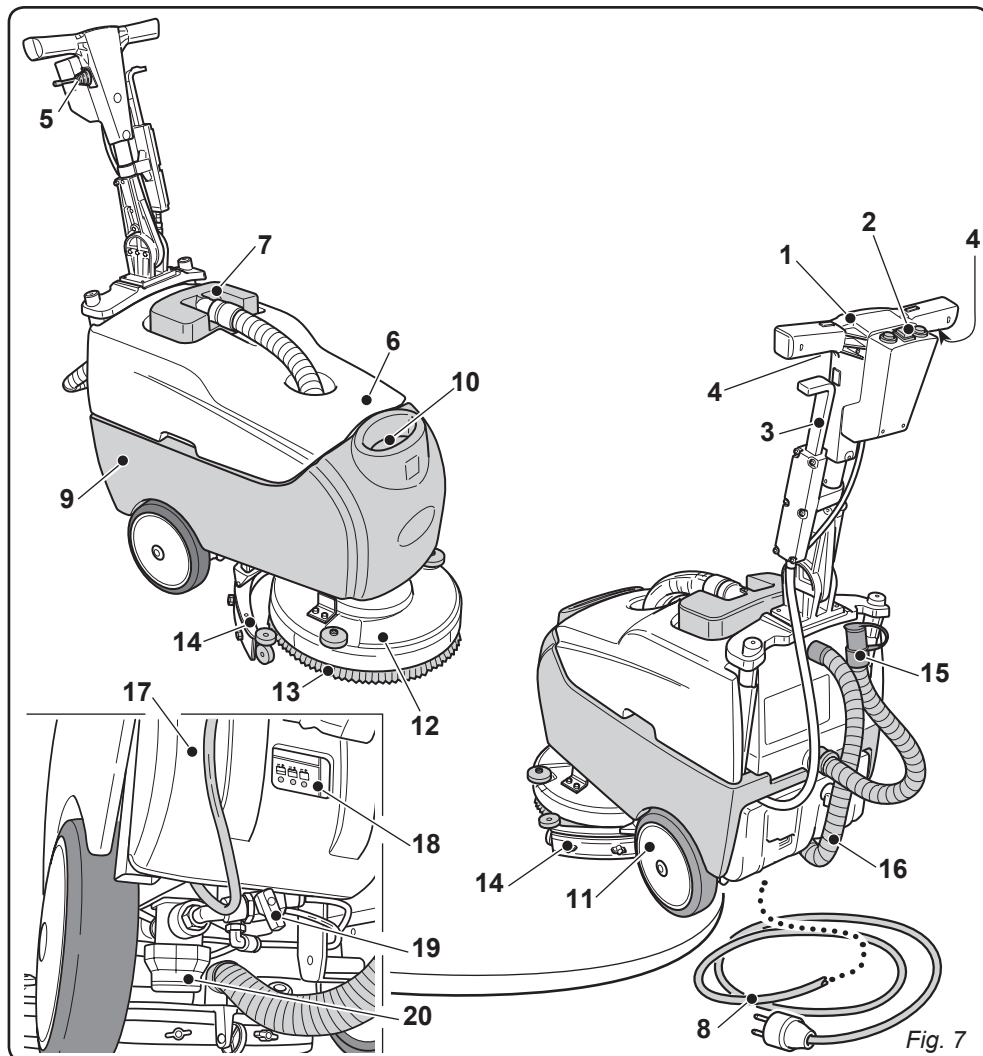

Fig. 7
5.1 CONOCIMIENTO DE LA MÁQUINA (Fig. 7)